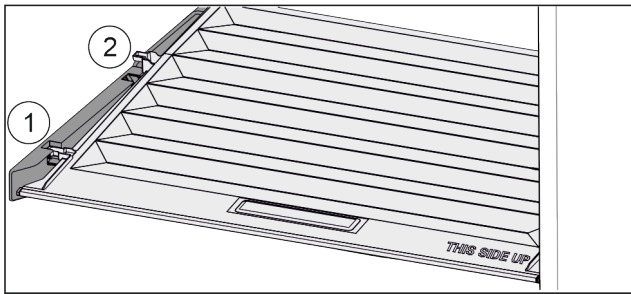

Fig. 27
- ▶ Pull the lid up at the front in the retaining parts to the opening Fig. 27 (1).
- ▶ Lift from the back and pull it up and out Fig. 27 (2).